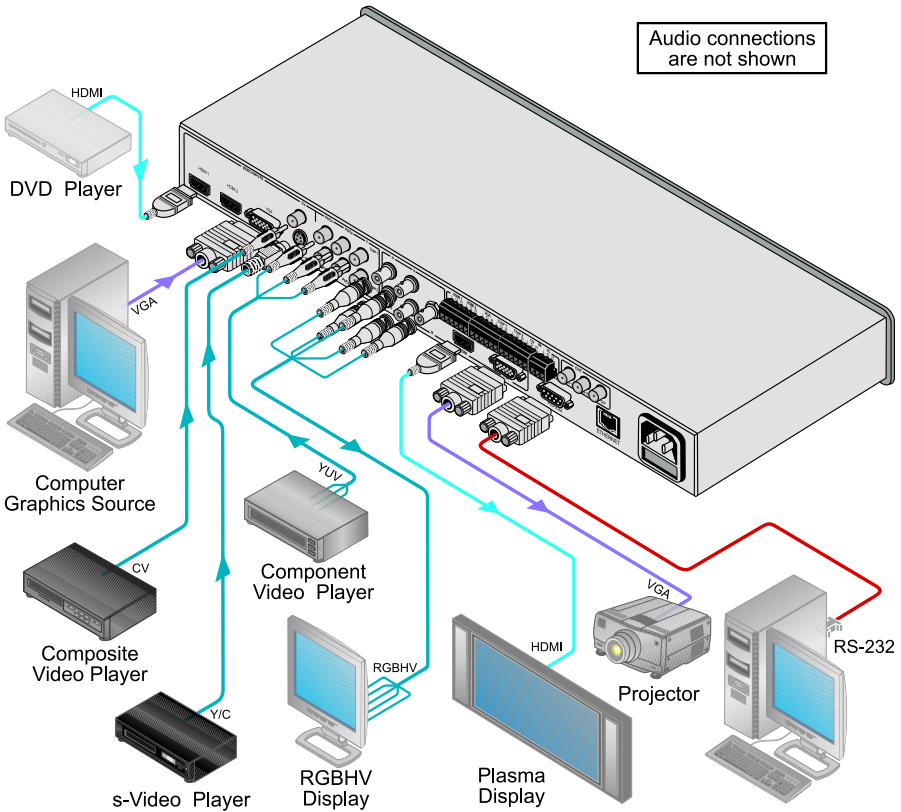

Figure 2: Connecting the OMX-4370xl Presentation Switcher / Scaler
To connect1 your **OMX-4370xl**, as illustrated in the example in Figure 2, do the following:
6. Connect the audio input signals to the AUDIO IN terminal block connectors, as required (not shown in Figure 2).
10. Connect the audio output signals to the OUT stereo analog audio acceptor and/or the digital audio acceptor, as required (not shown in Figure 2).
11. Connect the power cord3 (not shown in Figure 2).